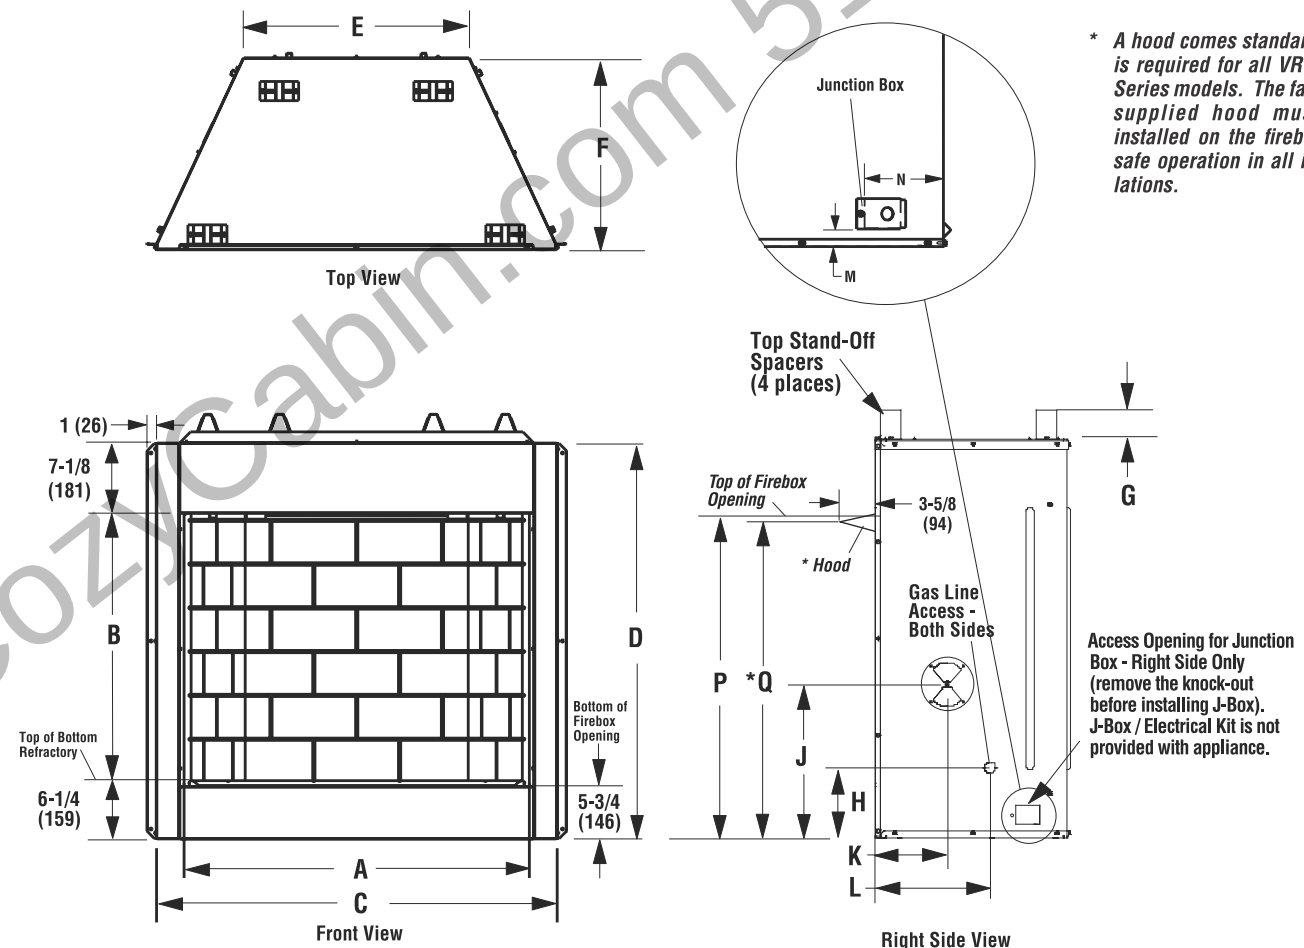

Figure 6
Remove the gas line access cover plate on either the left or right side of the fireplace (see **Figure 6** showing locations).
Construct firebox framing following **Figures 7 through 9** and **Table 1** on **Page 11** for your specific installation requirements. Refer to **Figure 6** on **Page 10** for firebox dimensions.
Step 2. Remove the rectangular knock-out (for J-Box) on the right side of unit (see **Figure 6** for location). Install the Junction Box and Electrical outlet below the firebox floor into the rectangular opening on the right side cabinet panel where you removed the knock-out (see **Figures 17 and 18**). The Junction Box / Electrical Kit is sold separately (see **Page 16** for ordering information).